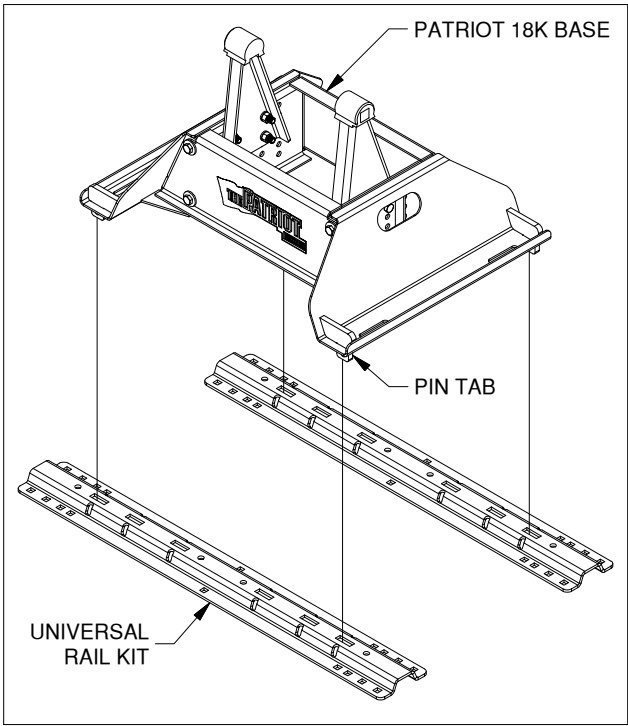

FIGURE B1: Rail Attachment
1. The Patriot 16k base will mount to a rail kit in the truck bed. Remove any debris and/or obstructions from the bed. Place the Patriot 16k base over the rail attachment points and carefully lower it until the pin tabs pass through the attachment points and the base rests flat against the top of the rails, see figure B1.